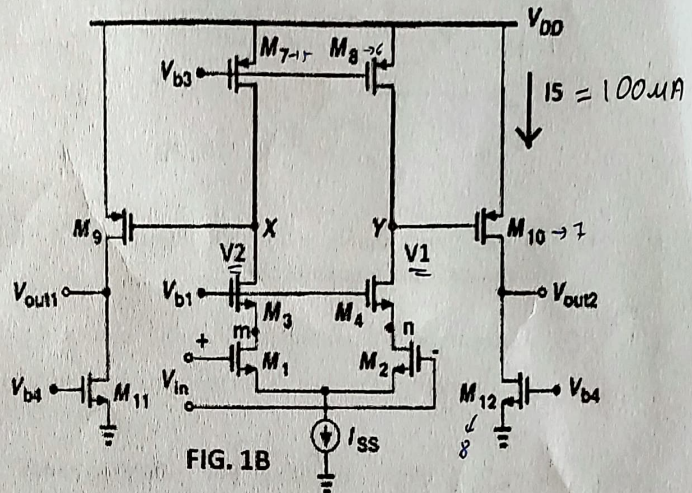

FIG. 1B
Q1. Consider the circuit given in Fig. 1B.
- a) Sketch and label low-frequency small signal model, with differential input V_{id} , of Fig. 1B.